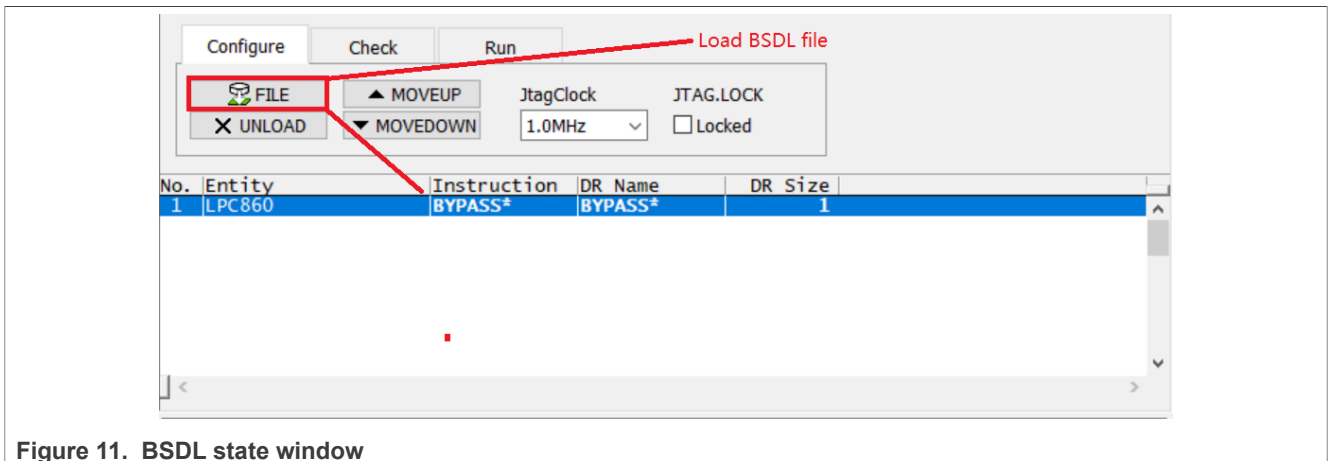

Figure 11. BSDL state window
5. The **BSDL.state** window appears, as shown in Figure 11. Click the **FILE** button and load the BSDL file you want to validate.